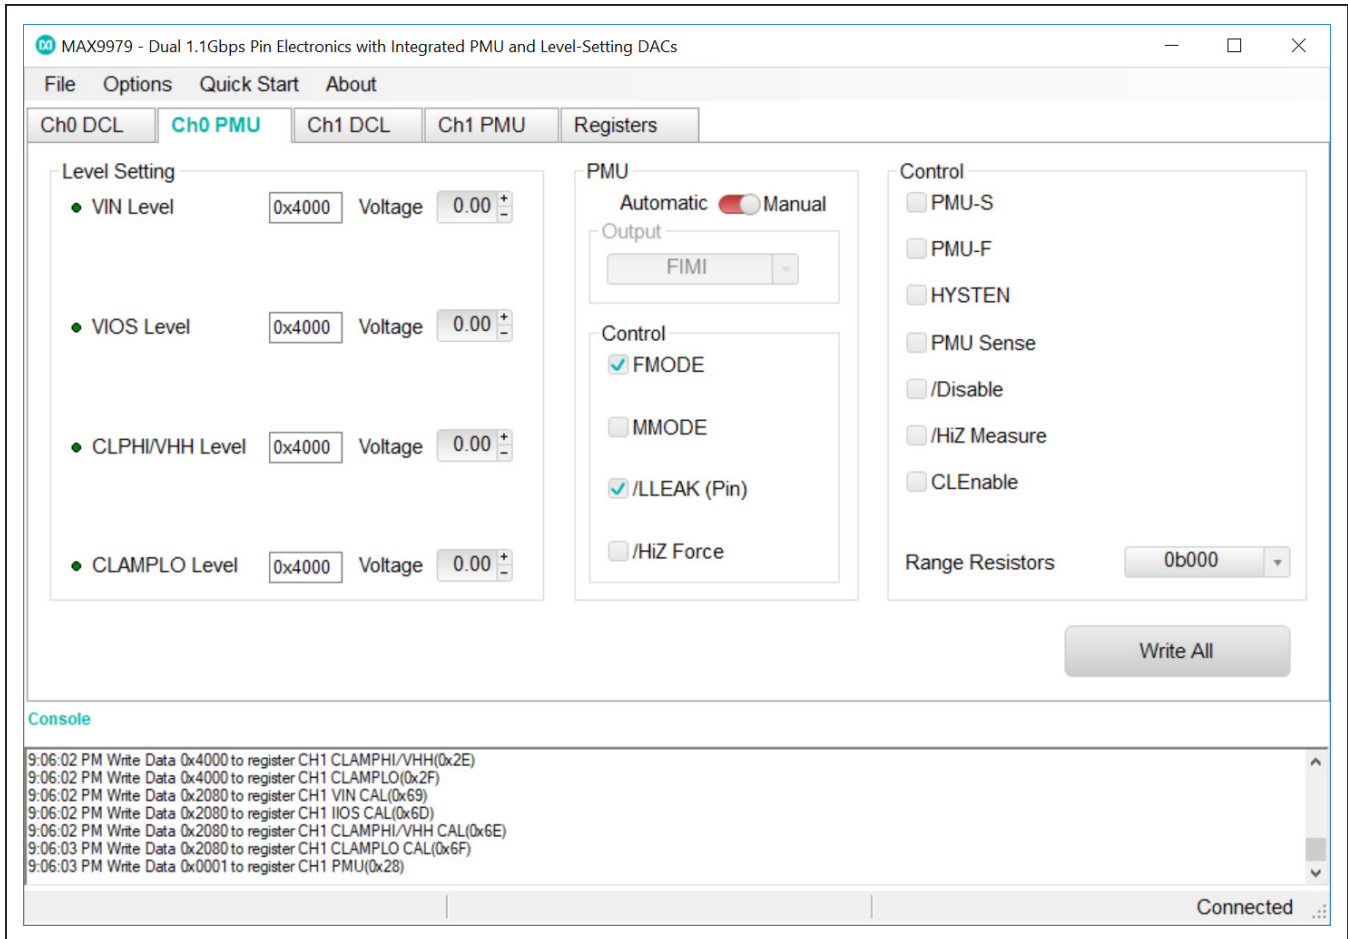
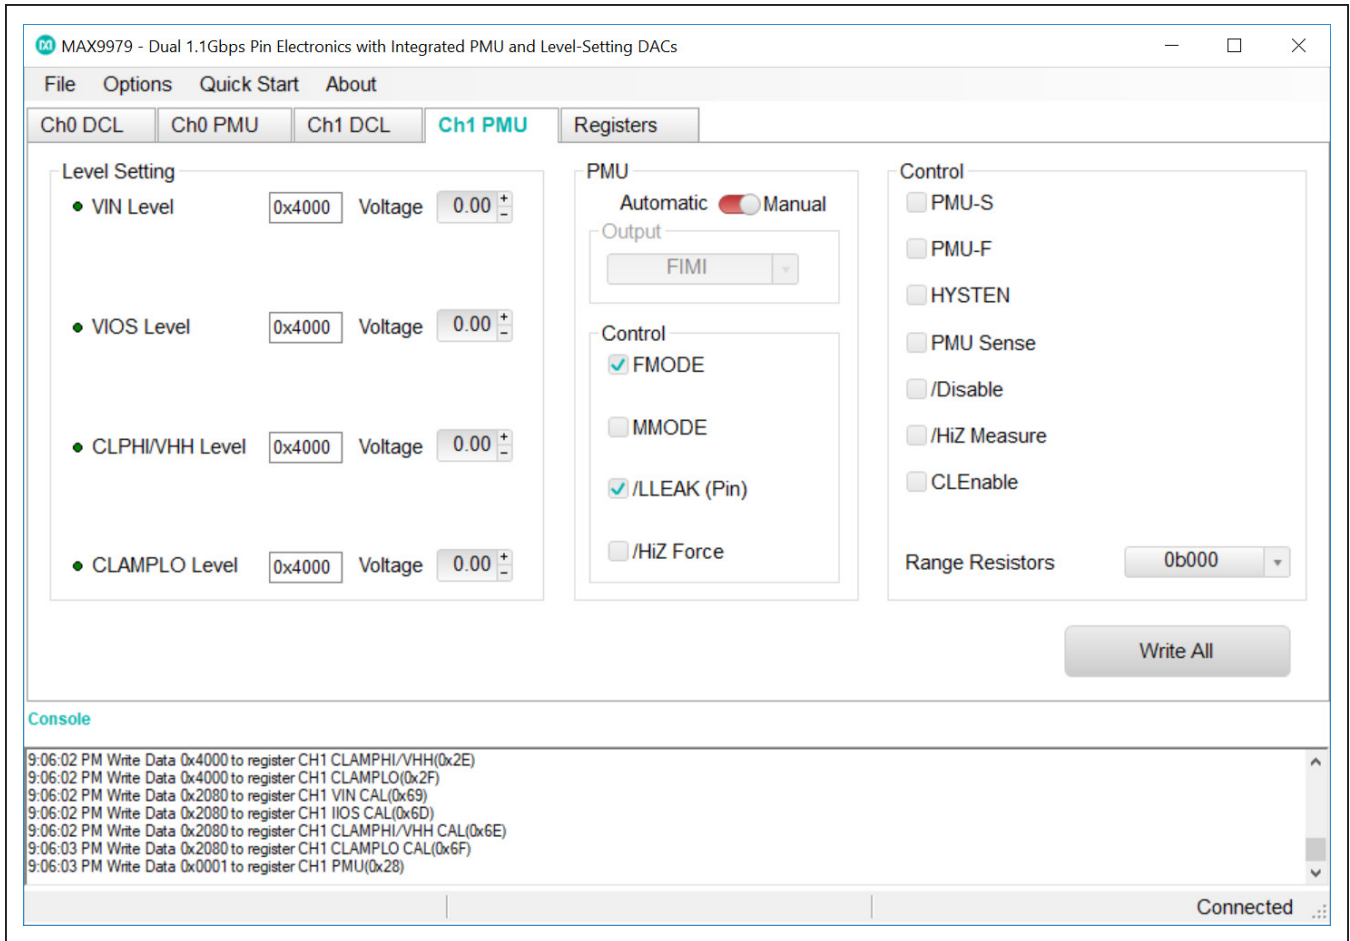

Figure 4. MAX9979 EV Kit Software Main Window (Ch0 PMU Tab)
Figure 5. MAX9979 EV Kit Software Main Window (Ch1 PMU Tab)
**Ch0 PMU** and **Ch1 PMU** tab sheets (Figure 4 and Figure 5) are identical for Channels 0 and 1 respectively. Both tab sheets contain **Level Setting**, **PMU**, and **Control** group boxes.